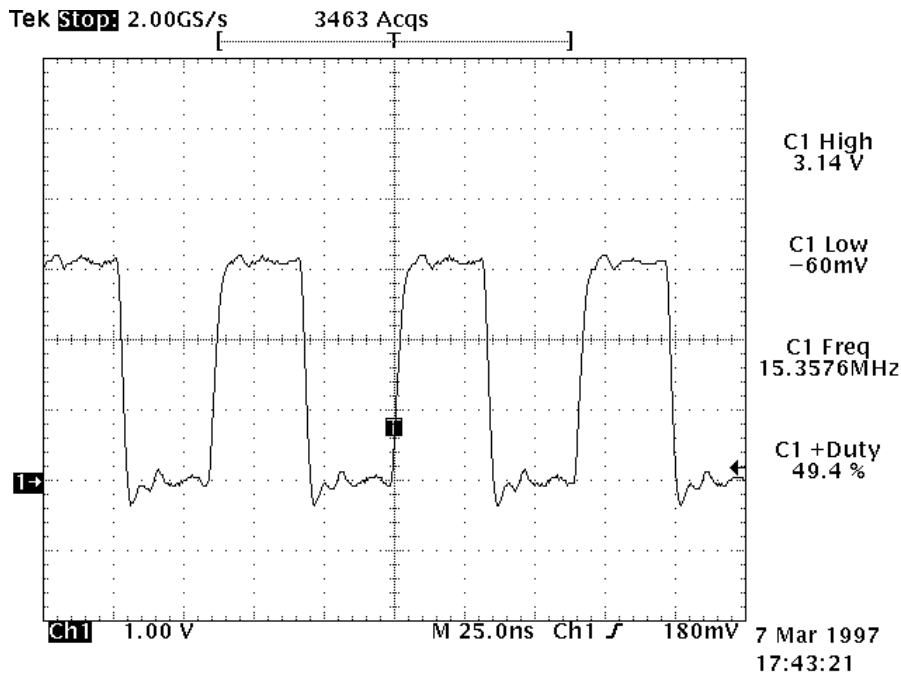

Figure 2
- Measure CDRFI(N700) pin 1. See Figure 2. Is there a 15.36MHz sine wave signal?